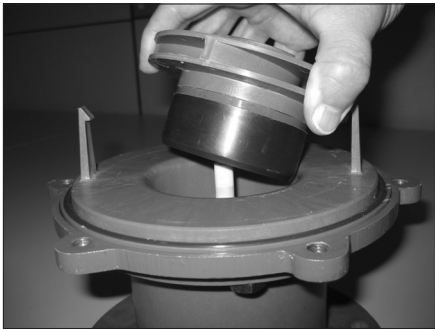

Figure 34
5. Install o-ring (item 4) in groove in the barrier making sure it is tucked in all the way around.
6. Install impeller shaft (item 10) into barrier by aligning the flats on the shaft with the ones in the barrier. Make sure it is completely seated.
7. Carefully install the impeller/inner drive assembly (items 8, 8A, 9 & 9A) by sliding it over the impeller shaft in the barrier. It is normal for the impeller/inner drive to pop up a slight amount due to magnetic forces with the metal clamp ring. See figures 34 & 35.